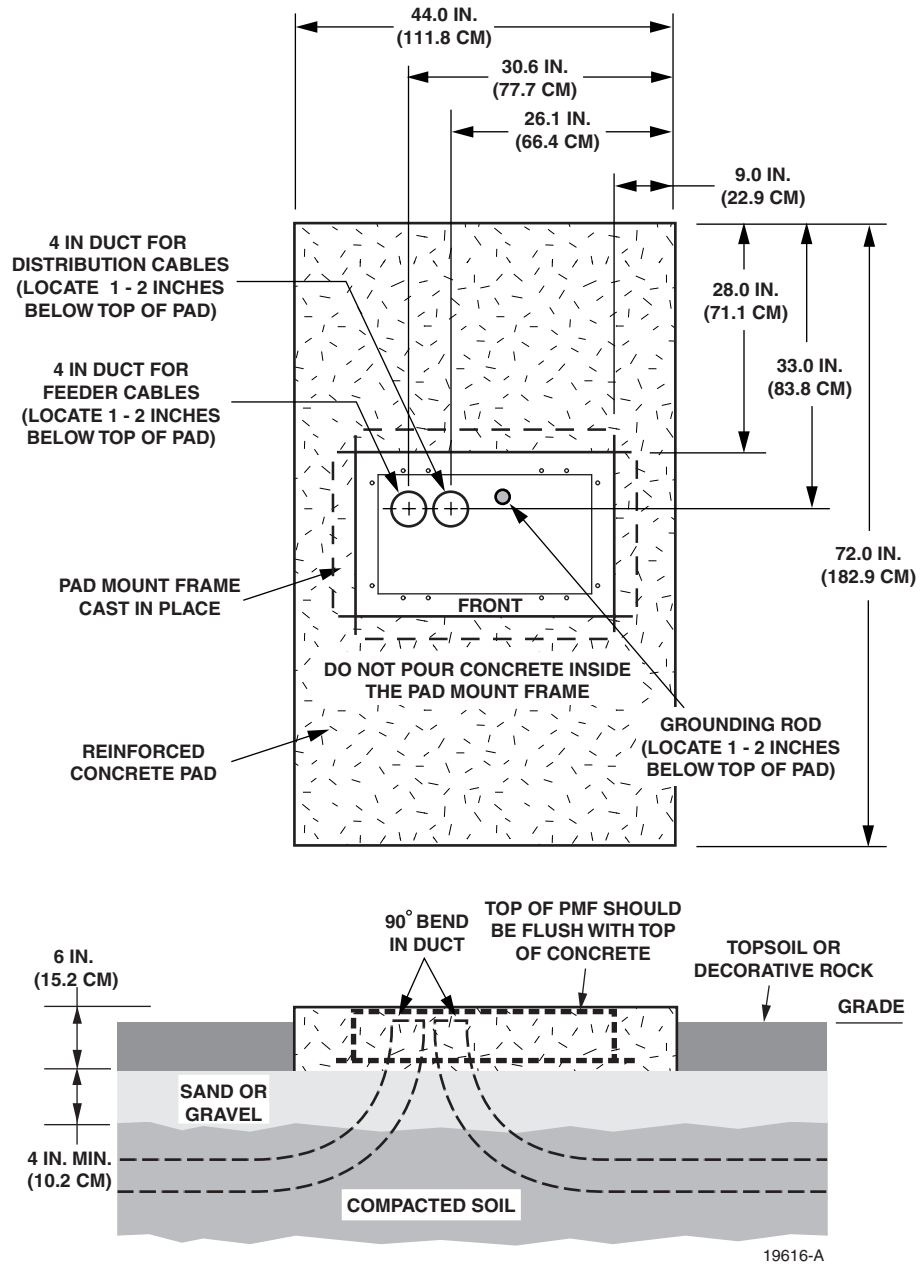

Figure 8. Constructing the Concrete Pad for the ACE-142S/142V Cabinet
Install the cable conduit from below as shown in Figure 8 and position it so that the top of each upward bend will be located within the PMF opening at the indicated point. When installed, the top of the conduit should be located 1 to 2 inches (2.54 to 5.08 cm) **below** the top of the finished concrete pad. Install the conduit **before** pouring the pad.
Prepare a base for the concrete pad that meets all local code requirements. The base must have a footing of 4 to 6 inches (10.2 to 15.2 cm) of sand or gravel (per local practice) on firmly compacted soil. Refer to the construction diagram (see Figure 8) for details.
2. Locate the PMF as shown in the construction diagram (see Figure 8). When installed, the top surface of the PMF must be flush and level with the top of the concrete pad.
Install a grounding system (not provided) that meets all local electrical codes. Check local codes for grounding system installation, use of clamps, wire size, and any other grounding requirements. Typically, #6 AWG copper wire is used for the ground wire. If the grounding system includes a ground rod, install the rod (see Figure 8) within the PMF opening at the indicated point. When installed, the top of the rod should be located 1 to 2 inches (2.54 to 5.08 cm) **below** the top of the finished concrete pad. Connect the grounding wire to the grounding system. Leave sufficient slack in the grounding wire to allow it to be routed into the cabinet after the cabinet is mounted on the pad.